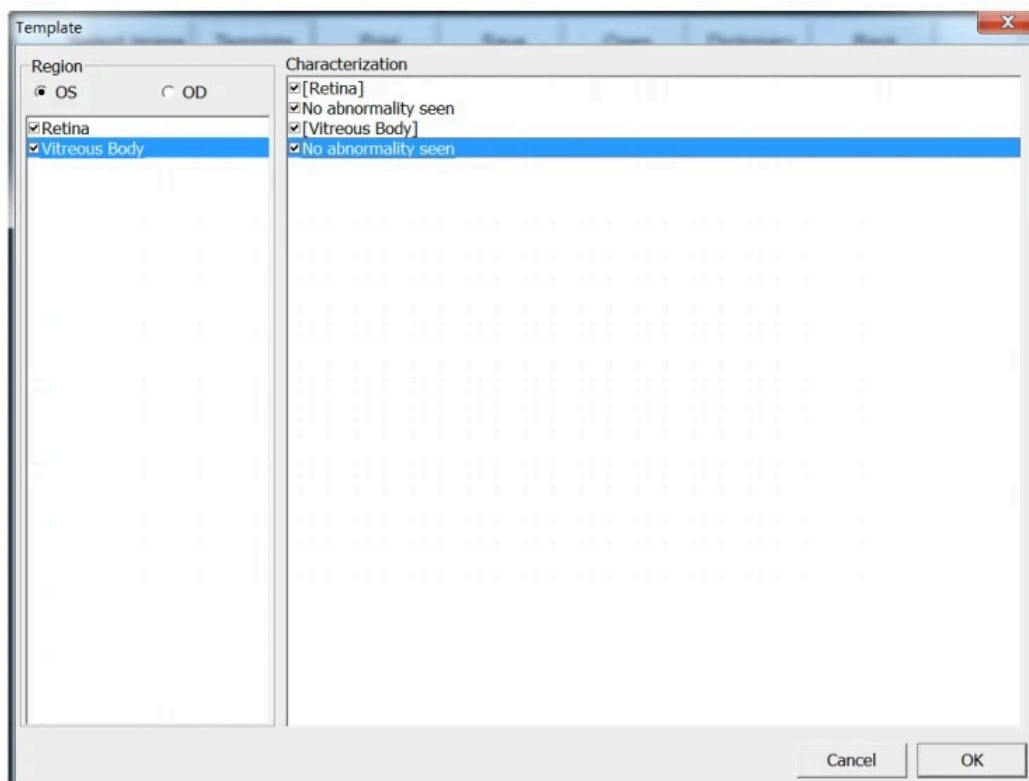
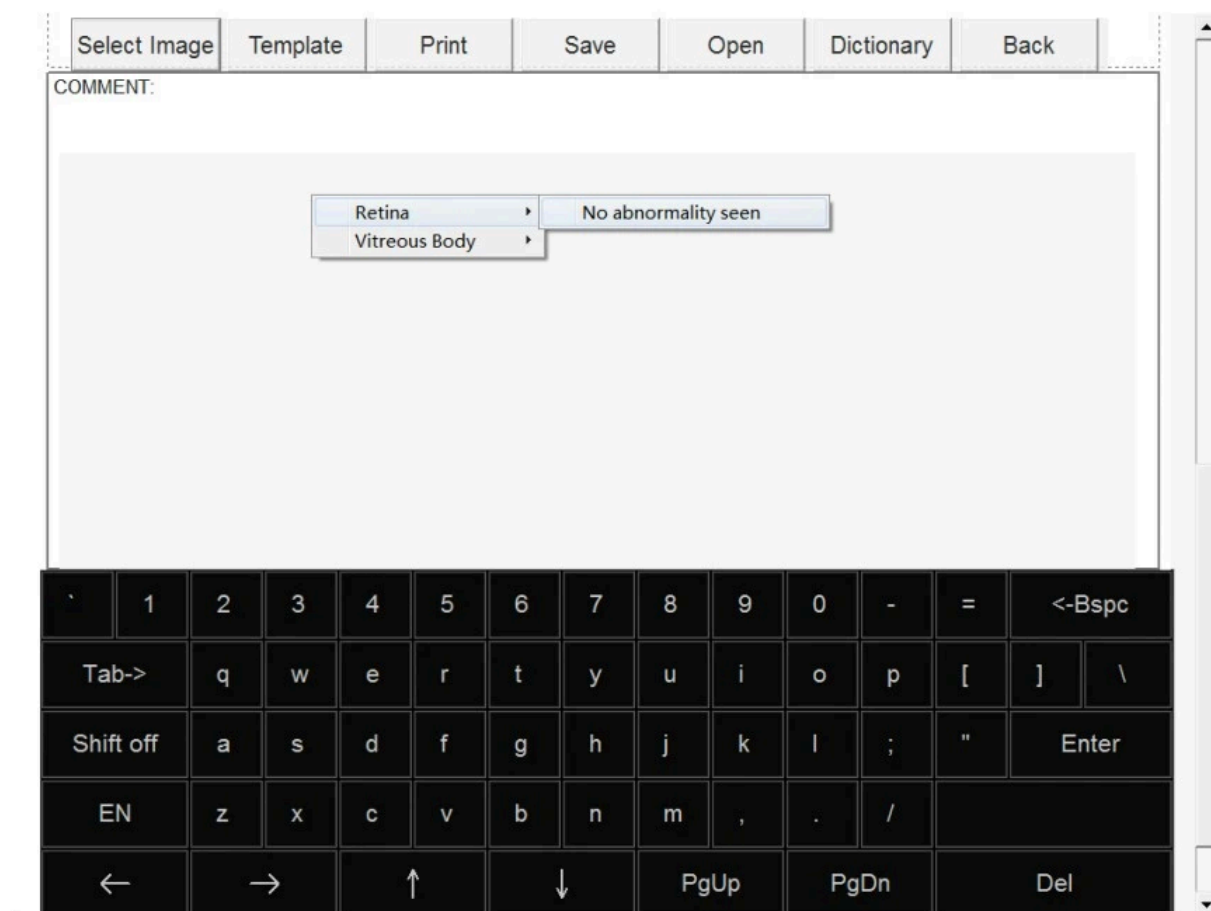
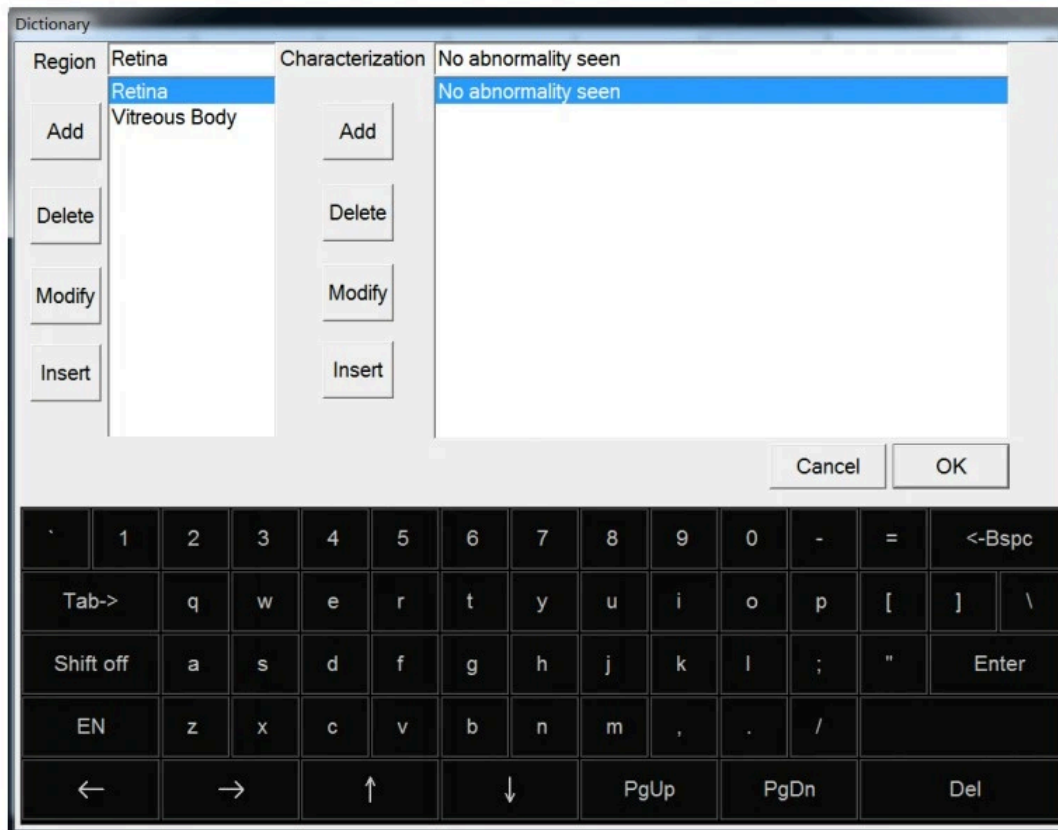

Figure 4-10-3 Editing and Characterization Interface
Figure 4-10-4 COMMENT area in Diagnosis Report Interface
Figure 4-10-5 Dictionary Interface
Click **Template** key, and an editing and characterization interface pops up, shown in Figure 4-10-3.
characterization corresponding to the selected eye part in the Characterization area on the right side. Uncheck the eye part on the left side, to clear the relevant characterization corresponding to the eye parts. Check the relevant entries in the Characterization area on the right side, to characterize the current eye. When characterizing the right eye (OD), click OD key, and perform the same operations as that with the left eye (OS). When the relevant characterization of the eye parts is finished, click OK, to close the dialog box for editing and characterization, and the selected characterization will be displayed in the COMMENT area in the diagnosis report interface. This indicates the completion of primary editing and typesetting. The user may further conduct relevant operations like adding or deleting. Right-click the area, and the user may also add characterization through the right-key menu, shown in Figure 4-10-4. Click the blank areas on the two sides, to quit the editing state. The eye parts and their corresponding characterization presented in the editing and characterization interface can be added in the diagnosis dictionary (Figure 4-10-5), for detailed operations, please refer to the introduction below on the diagnosis dictionary.
Click **Dictionary** key, and the dictionary interface pops up, shown in Figure 4-10-5.
Fill in eye parts, such as anteroposterior diameter, lens, vitreous body, retina, in the Region column on the left side, and fill in the relevant characterization in the Characterization column on the right side. Take the Region column on the left side for example, click **Add** key to add eye parts of the Region column, click **Delete** key to delete selected eye parts of the Region column, click **Modify** key to edit or modify selected eye parts of the Region column, or click **Insert** key to insert new content to selected eye parts of the Region column. The keys of **Add**, **Delete**, **Modify** and **Insert**, for the Characterization column on the right side perform the functions similar to those of the Region column on the left side. Press CTRL+SPACE, to switch between Chinese and English. The eye parts and their relevant characterization added from the diagnosis dictionary are added for the right-key menu in the editing and characterization interface (Figure 4-10-3) and COMMENT area (Figure 4-10-4).
Click the COMMENT area of the diagnosis report interface (Figure 4-10-4), to re-edit the comment in the COMMENT area, and click the blank areas on the two sides, to quit the editing state.